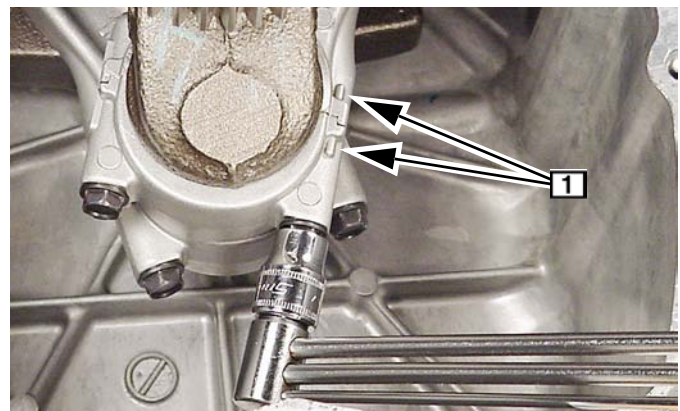

Fig. 142
4. Assemble connecting rod cap to rod with match marks aligned **1**, Fig. 142.